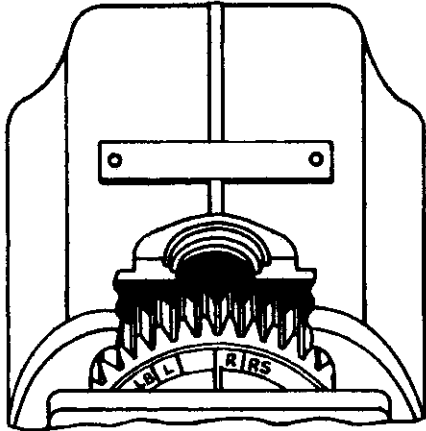

Figure 4. Alignment of Timing Marks on Distributor Gear – 6 Cylinder, Single Breaker, Right Hand Rotation
b. Six cylinder, single breaker types – The timing rib on the distributor block MUST lie between the "L" and "LB" or the "R" and "RB" marks on the gear, and should be nearer to the "L" or "R" mark, depending on magneto rotation. See figure 4.